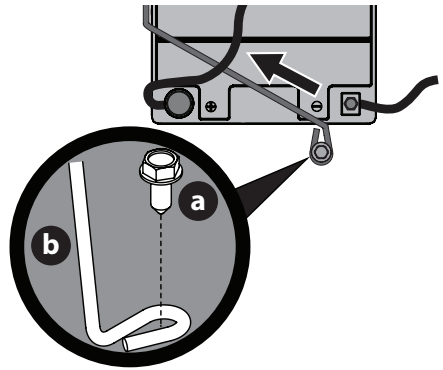

Figure 21
**NOTE:** Wiring harness should lay on top of battery hold-down rod, otherwise damage to the wiring harness may result (Figure 21 on page 14).
3. Remove the hex washer screw (a) securing the battery hold-down rod (b) to the frame. Then flip the battery hold-down rod (b) up to free the battery (Figure 21).